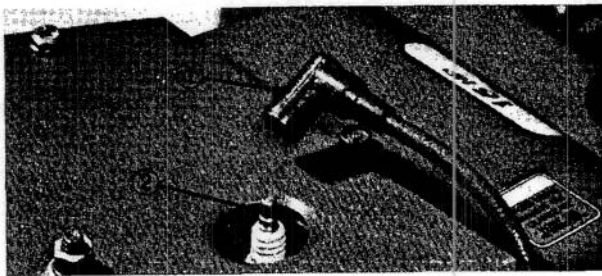

Figure 76
2. Pull high tension wire off spark plug and remove plug from cylinder head (Fig. 76).